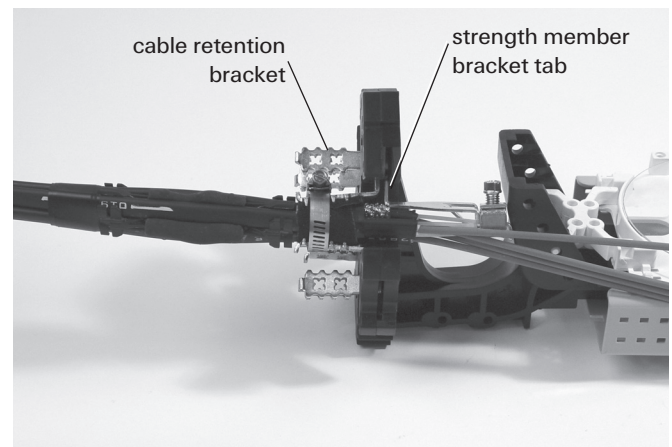

Figure 4
10. Place the cable between the cable retention bracket teeth and secure the cable with the hose clamp. (Figure 4) Tighten the clamp such that retention bracket teeth seat fully into the black felt cable wrap.